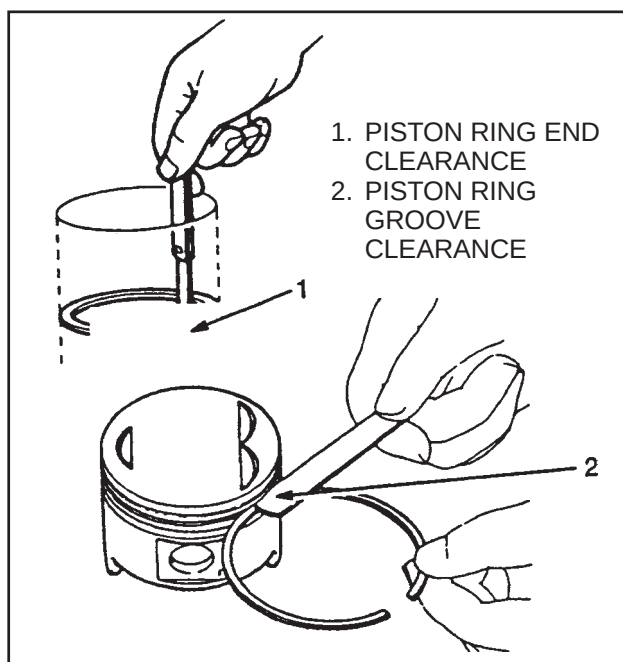

FIGURE 34. MEASURING THE PISTON RINGS
1. Measure the end clearance of each piston ring as shown in FIGURE 34. Install the piston ring into the cylinder bore where it will be used. Use a thickness gauge to measure the amount of end clearance. The correct dimensions are as follows:
2. Measure the clearance between the piston ring and the groove in the piston as shown in FIGURE 34. The correct dimensions are as follows: